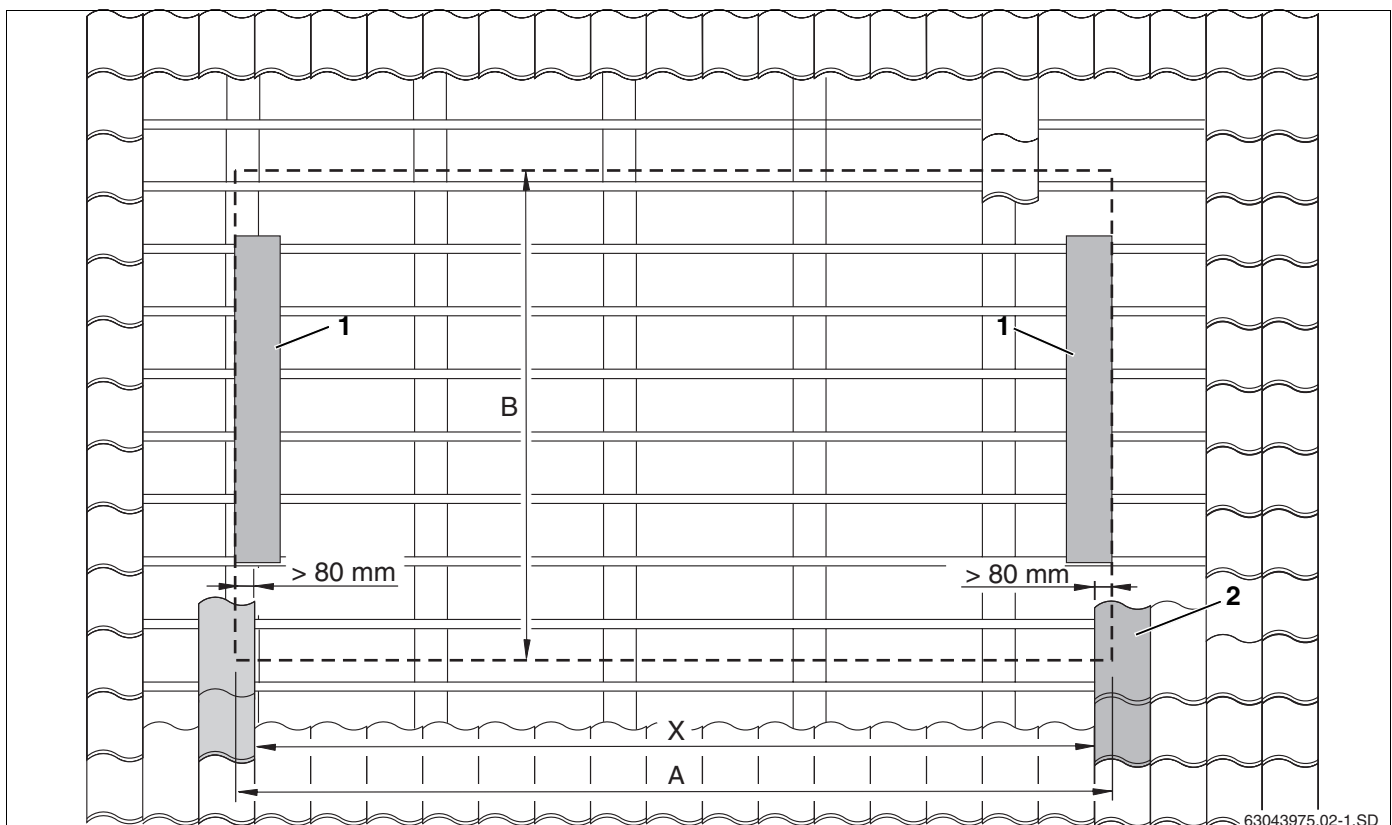

Fig. 8 Determining the exact position of the collector array
- ▶ Determine dim. X (distance between the tiles that lie on the side facing panels, Fig. 8, **Pos. 1**) on the roof and mark it on the roof.
- ▶ Determine the lowest row of tiles (Fig. 8, **Item 2** taking dimension B into account (Fig. 8).